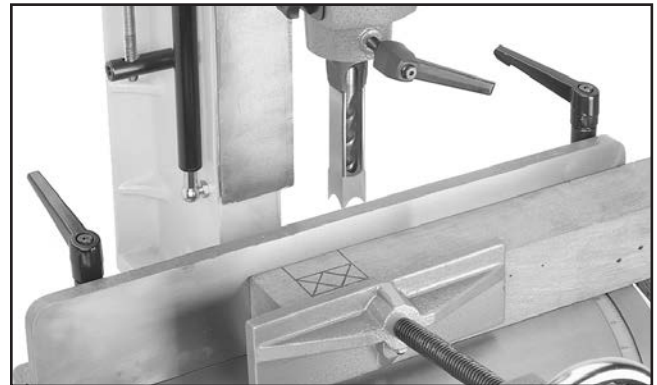

Figure 11. Example of aligning mortising chisel.
3. Lays out desired mortise clearly on workpiece and uses X- and Y-axis table controls (and Y-axis tilt) to align chisel with layout marks on workpiece (see **Figure 11**).